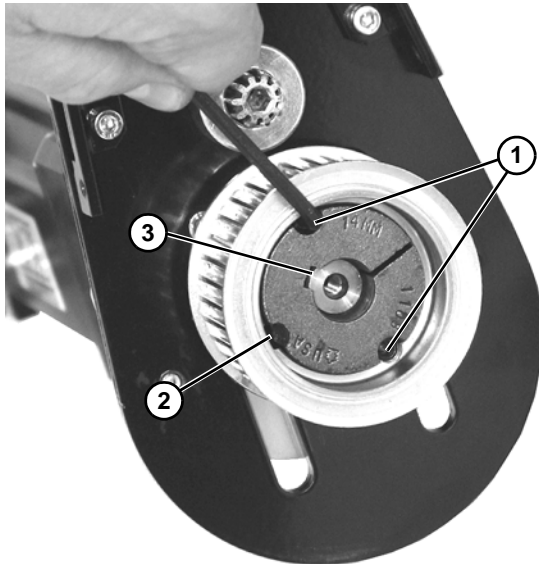

Figure 54
If drive pulley (Figure 54, item 2) is replaced, wrap timing belt around drive pulley and complete step 3.
3. To remove drive pulley, remove taper-lock screws (Figure 54, item 1). Insert one (1) of taper lock screws in remaining hole (Figure 54, item 2). Tighten screw until pulley is loose. Remove pulley and taper hub assembly.
4. Be certain key (Figure 54, item 3) is in place on shaft before installing drive pulley. Secure with two taper-lock screws (Figure 54, item 1).